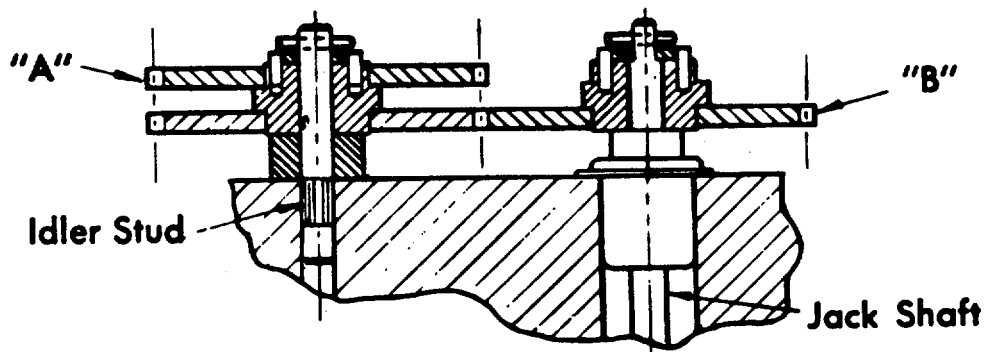

FIG. 13.
- b. See Reversing Diagram, Figure 13.